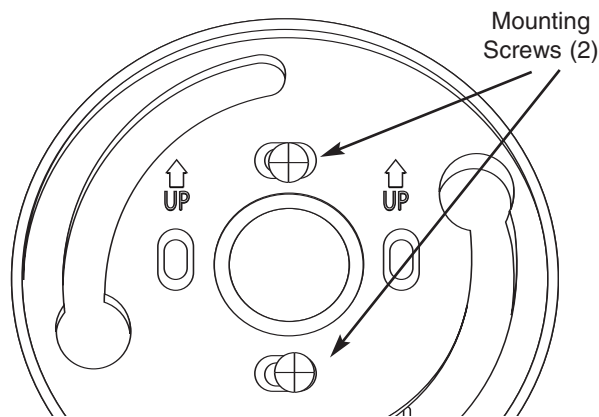

Figure 4
- 2). Using the two (2) 8-32 mounting screws mount the dial plate (P/N 3752) onto the tapped holes on the door.
- Tapped holes on the door should be at 12:00 and 6:00 locations, see *Figure 4*.